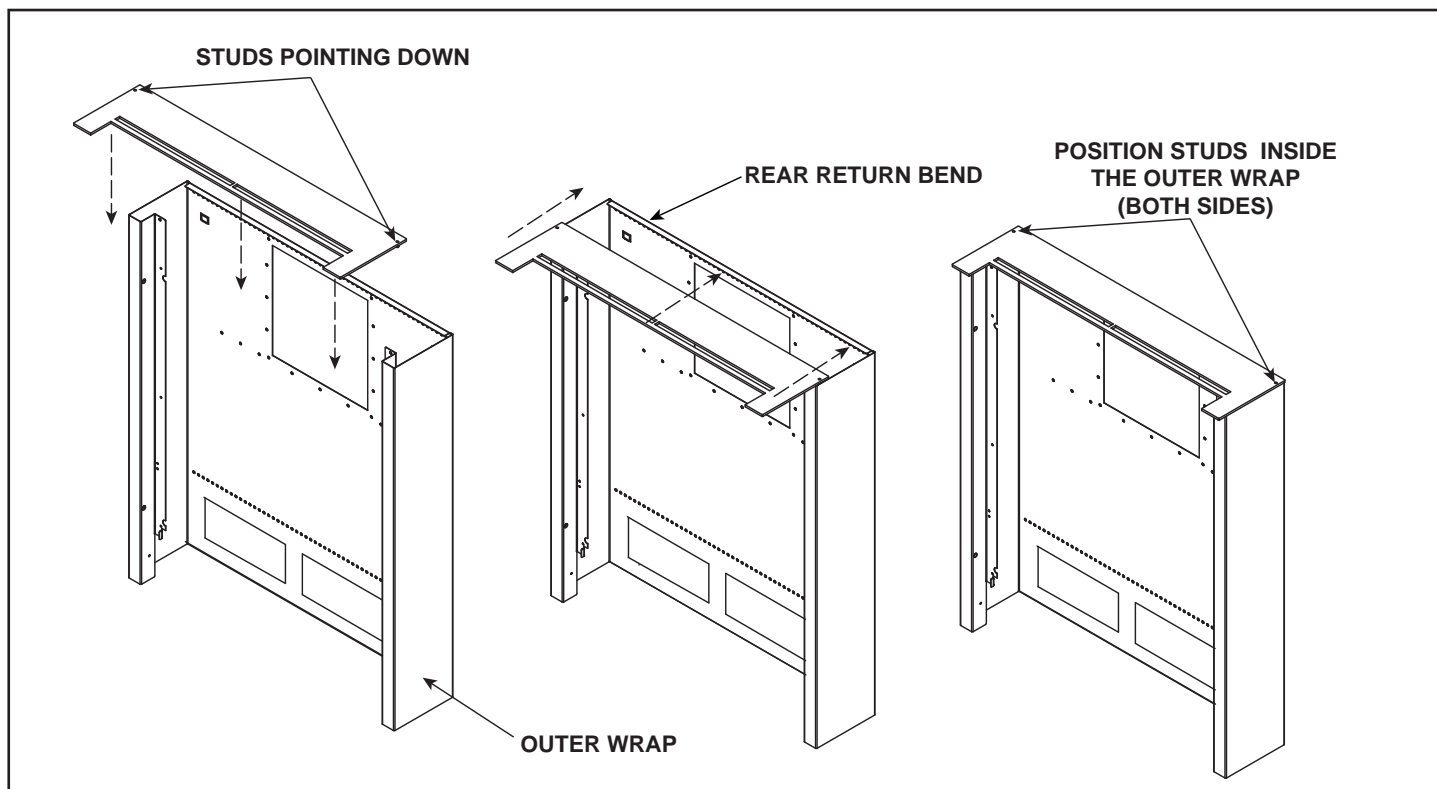

Figure 3. Install the Door Top
4. Install door top. The door top must be slid back until it passes completely over the rear return bend. See Figure 3.